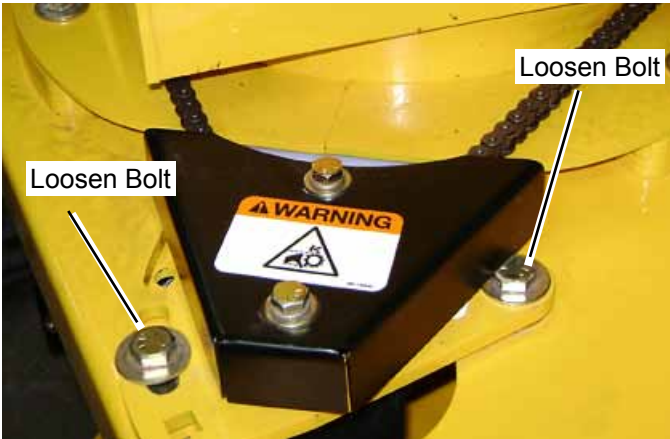

Figure 27
To disassemble the discharge chute (Figure 27 and Figure 28):
2. Loosen drive motor mounting bolts (Figure 27)
7. Adjust the tension on the chain by moving the drive motor back. Tighten the adjusting nut (Figure 27).